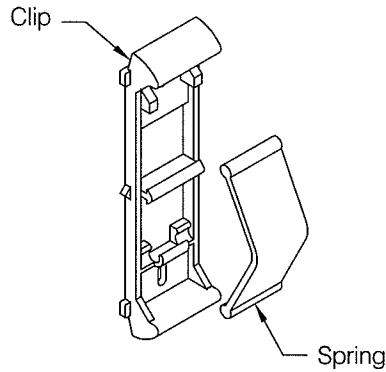
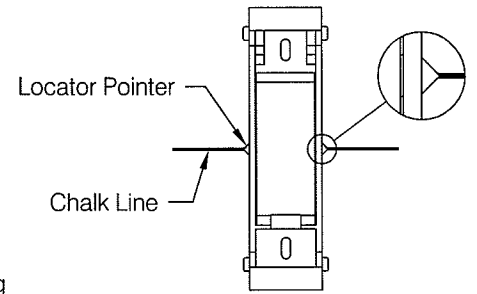

fig 2
fig 3
**Step 2:** Each Quik Clip retainer consists of a base or "Clip" and an impact cushion or "Spring" shipped separately, see **fig 2**. Secure clips to wall by aligning the molded location pointers in the clip with the chalk line, see **fig 3**. While the clip may be installed either end up it is recommended that the spring socket be oriented down, see **fig 8**.